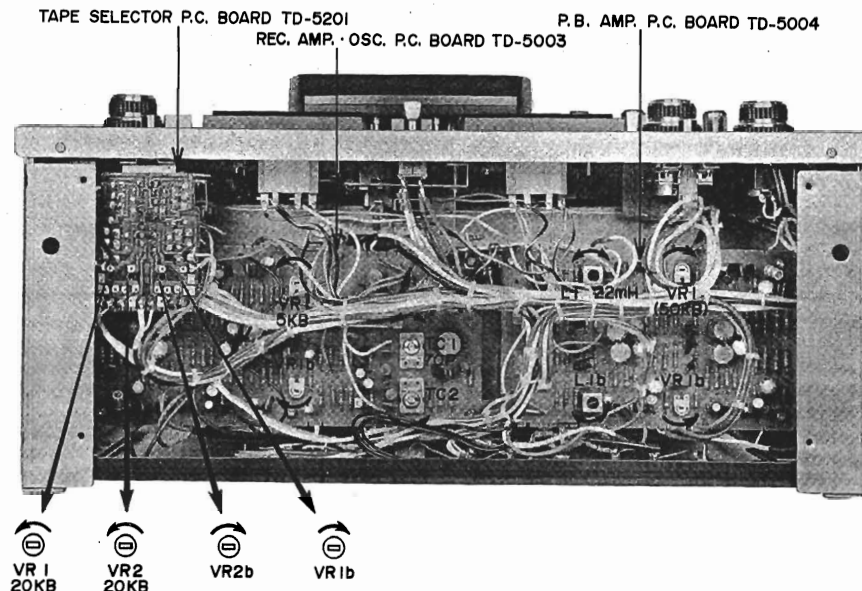

Fig. 21
- 4) Adjust semi-fixed resistors VR1 50 kB (left ch.) and VR1b 50 kB (right ch.) of P.B. Amp. P.C. Board (Fig. 21) to obtain a 0 dBm ("0" VU) line output level on both channels.
- 7) Adjust semi-fixed resistors VR1 5 kB (left ch.) and VR1b 5 kB (right ch.) of Recording Amp. OSC., P.C. Board (Fig. 21) to obtain a 0 dBm ("0" VU) line output level on both channels.
- 7) Adjust semi-fixed resistors VR1 20 kB (left channel) and VR1b 20 kB (right channel) of tape selector P.C. Board (Fig. 21) to obtain a 0 dBm ("0" VU) line output level on both channels.
- 1) In the case of wide range tape, set Tape Selector to WIDE RANGE position and use AKAI S.R.T. tape and adjust semi-fixed resistors VR2 20 kB (left ch) and VR2b 20 kB (right ch) of tape selector P.C. Board (Fig. 21) in the same way as outlined in article 4.
- 5) Switch the oscillation frequency of the audio frequency oscillator to 10,000 Hz from the condition outlined in item 5-4)
- 6) Adjust trimmer condensers TC1 70P (left ch) and TC2 70P (right ch) of Recording Amp. OSC., P.C. Board (Fig. 21) to obtain the same level on both channels at both of the two frequencies mentioned in items 5-4) and 5-5).